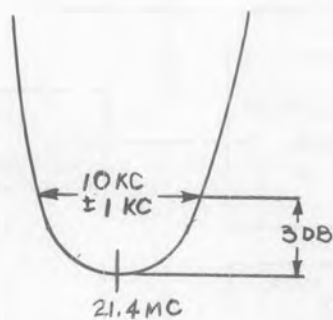

Figure 5-2. Type 501 Receiver, Typical Response Curve, V601 to V602 Interstage Alignment, 10-kc Bandwidth
- (2) Set audio generator output to 3 cps.
- (3) Set oscilloscope vertical sensitivity to 50 mv per cm.
- (4) Set Boonton 202E output to 171.4 mc.
- (5) Set Boonton Univerter dial at 0 KC.
- (6) Adjust sweep width by setting FM deviation to approximately 20 kc.
- (7) Set receiver BANDWIDTH switch to 10 KC position.
- (8) Adjust L603 and L604 of receiver for a symmetrical response curve centered at 21.4 mc on oscilloscope screen, as shown in Figure 5-2.
- (9) Adjust Hewlett-Packard 606A output for use as a 21.4-mc marker with marker output level such that marker barely appears on response curve.
- (10) Check bandwidth by tuning Boonton Univerter dial so that response curve moves across oscilloscope screen. Bandwidth will be the frequency difference read from dial when 3-db curve points intersect 21.4-mc marker line as shown in Figure 5-2.